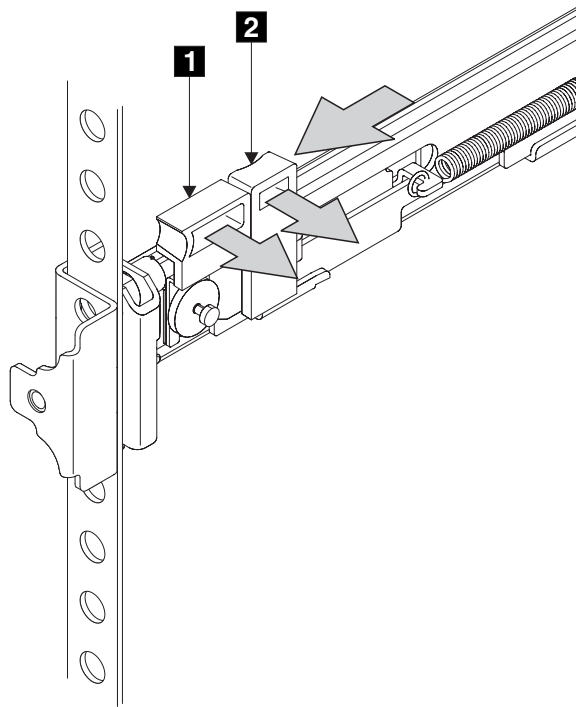

Figure 129. Closing the latch-lock carrier assembly
13. Push the latch lock **2** (Figure 129 on page 183) away from the rail to release the carrier. The latch-lock carrier slides toward the front of the rack, and the locating pins project through the holes that are in the front flange and in the front rail bracket.